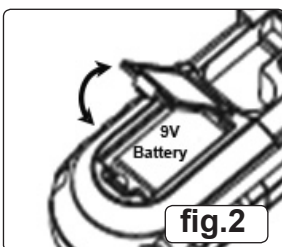

fig.2
- 4.1.1. Open the battery compartment in the rear of the tester (fig.2).